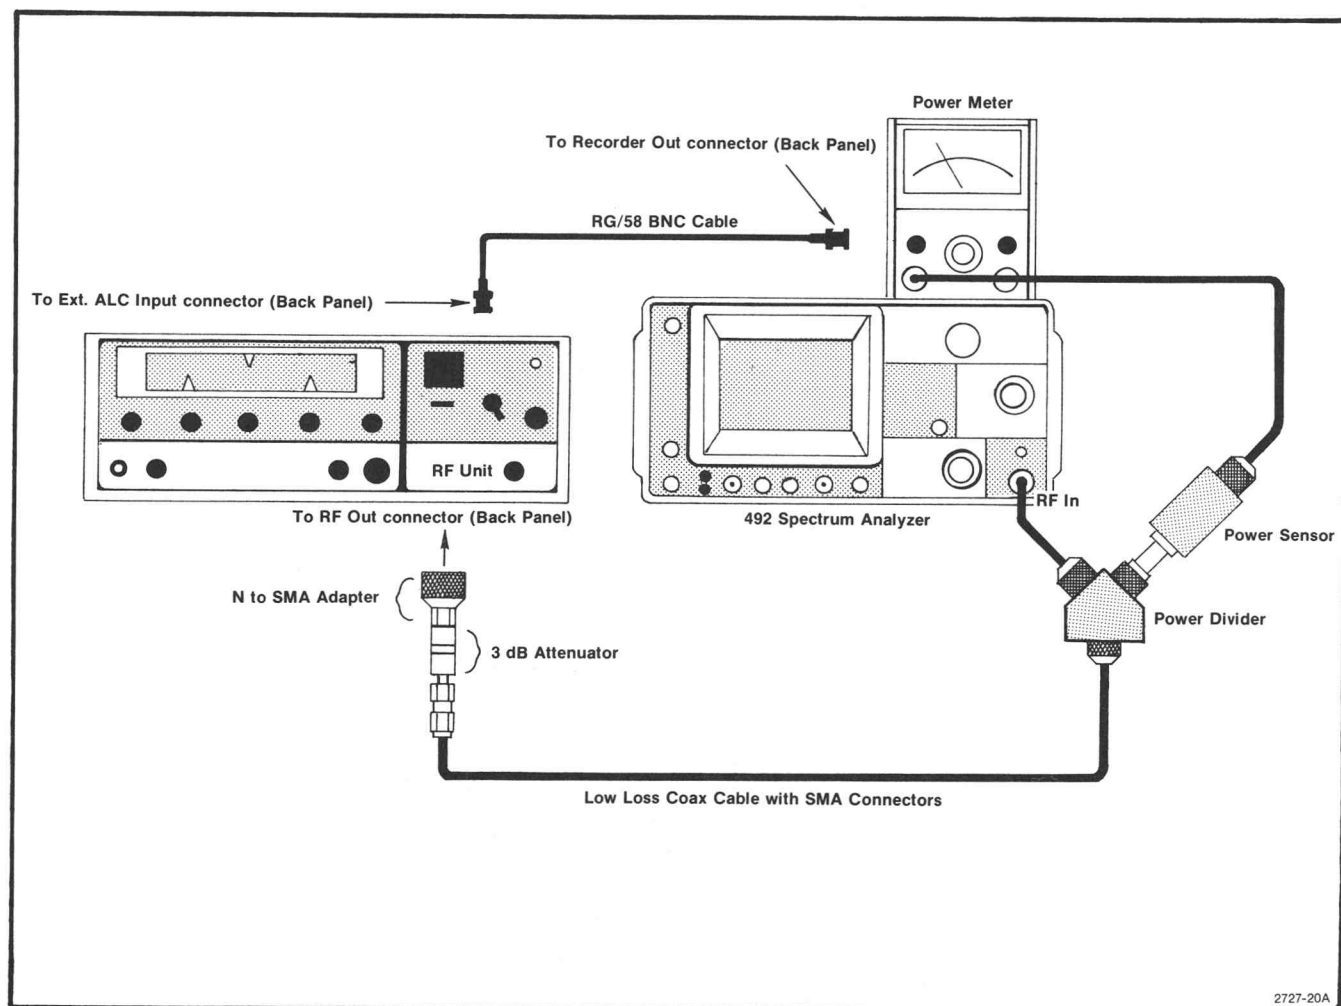

Fig. 3-7. Test equipment setup for measuring 2.0-18.0 GHz frequency response.
k. Replace the .01 to 2.4 GHz sweep source with a 2.0 to 18 GHz sweep oscillator and connect the test equipment as shown in Fig. 3-7. Switch the RF plug-in ALC to Mtr. Connect a coaxial cable between the Recorder Output of the power meter and the RF plug-in Ext ALC Input. Decrease the Power Level to approximately -6 dBm and adjust the Gain for stable operation (output stops oscillating).
k. Replace the .01 to 2.4 GHz sweep source with a 2 to 18 GHz sweep oscillator. Connect the test equipment as shown in Fig. 3-7. Switch the RF plug-in ALC to Mtr position and connect a coaxial cable between the Recorder Output of the power meter and the Ext ALC Input of the plug-in unit. Decrease the Power Level to approximately -6 dBm; then adjust the Gain for stable operation (output stops oscillating).